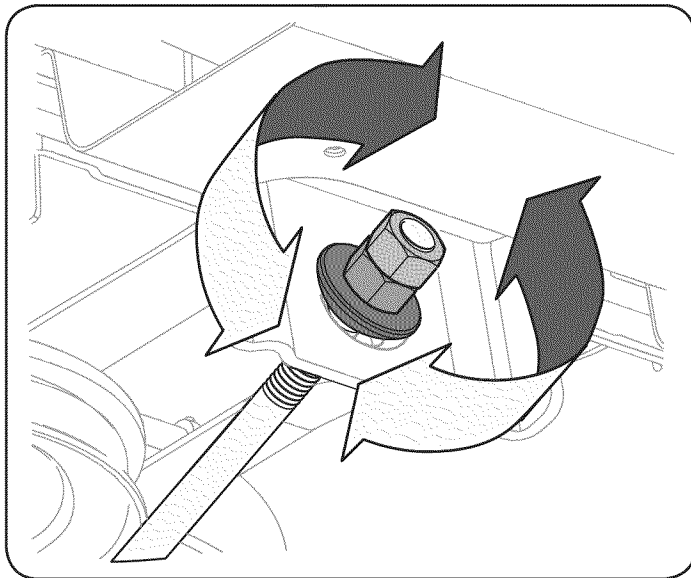

Figure 19
4. To raise the front of the deck, loosen the outer nut then tighten (thread inward) the nut against the front hanger bracket. See Figure 19. When proper adjustment is achieved, re-tighten the outer nut to 25-30 ft.-lbs.
5. To lower the front of the deck, loosen the outer nut then loosen (thread outward) the nut, away from the front hanger bracket. See Figure 19. When proper adjustment is achieved, re-tighten the outer nut.